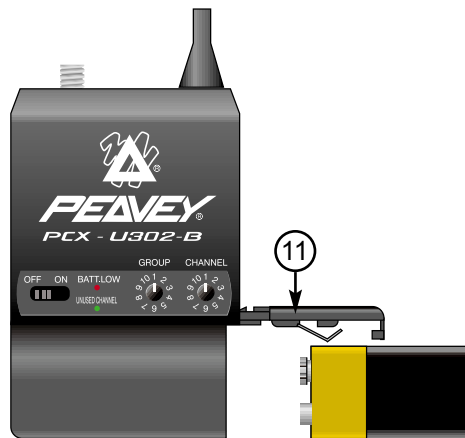

Figure 14
11. Battery compartment and cover: accepts one standard 9V battery. (Figure 14)